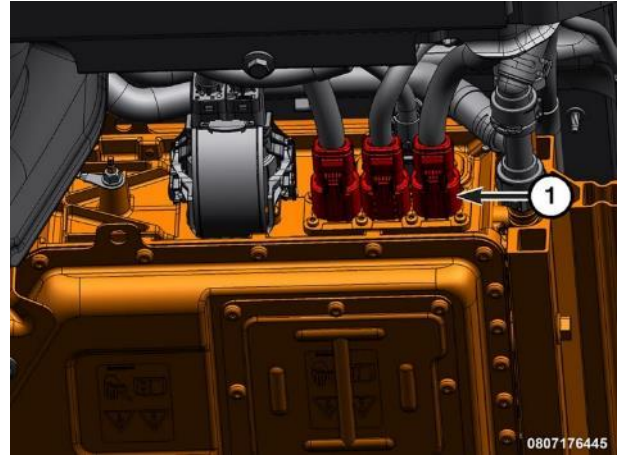

Figure 42 – HV Battery - Primary
24. Disconnect the low voltage wire harness connectors and cover (Figure 42).